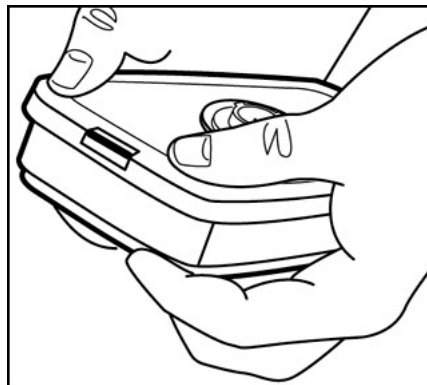

Fig. 5
2. Engage back snap by squeezing back side of cartridge and adapter together using the same hand positions. (Fig. 5) An audible click should be heard as each snap is engaged.